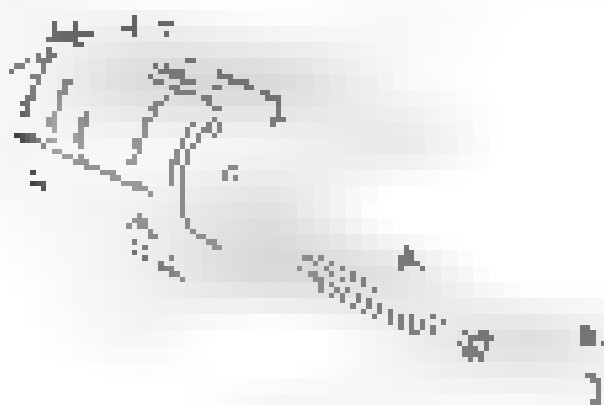

Figure 16
1. Place the extractor spring in the extractor spring hole (Figure 16, step A). The spring is O-RINGED.
- Push the extractor into the engine hole (Figure 16, step B). Orient the extractor so that the extractor's pin slot is facing toward the ball.